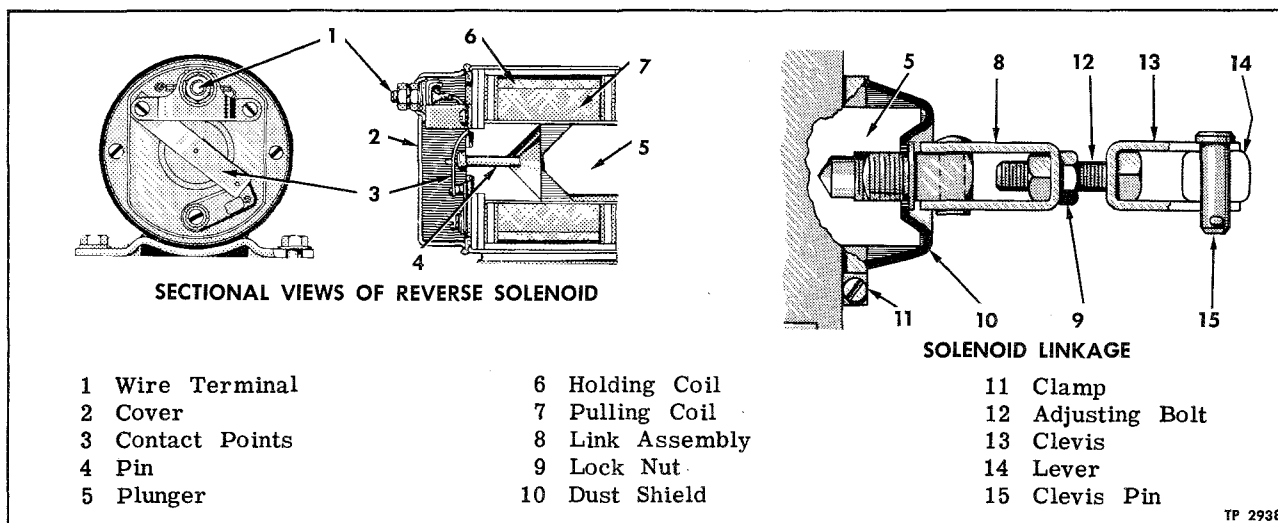

Figure 5—Reverse Solenoid and Linkage
Both coils in reverse solenoid (fig. 5) are energized to move the shift finger in transmission, but as solenoid plunger reaches end of its travel it strikes a pin which opens a set of points thereby breaking circuit through pulling coil. The holding coil remains energized however and will hold the solenoid plunger "in" as long as driver presses the reverse switch button. Refer to Engine Control and Generator wiring diagram in back of manual for arrangement of wiring, junctions, and circuit breaker.
5. Adjust lock nuts on solenoid link screw so that solenoid points just break, with the 1st, 2nd and reverse speed shift shaft moved fully into reverse speed position (fig. 5).